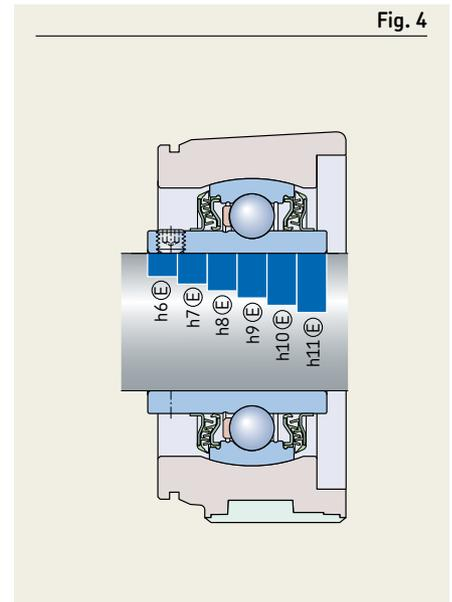

Fig. 4
**Fig. 4** illustrates the relative position of the upper and lower limits of the most commonly used ISO shaft tolerance classes. The values of these ISO tolerances are listed in **table 2**.